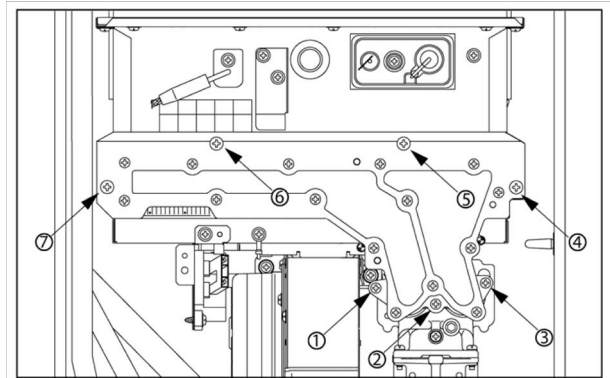

Fig. 1
- ▶ 5. Remove the manifold plate by locating and removing the 7 screws as indicated in Fig. 1. Discard the original manifold plate.